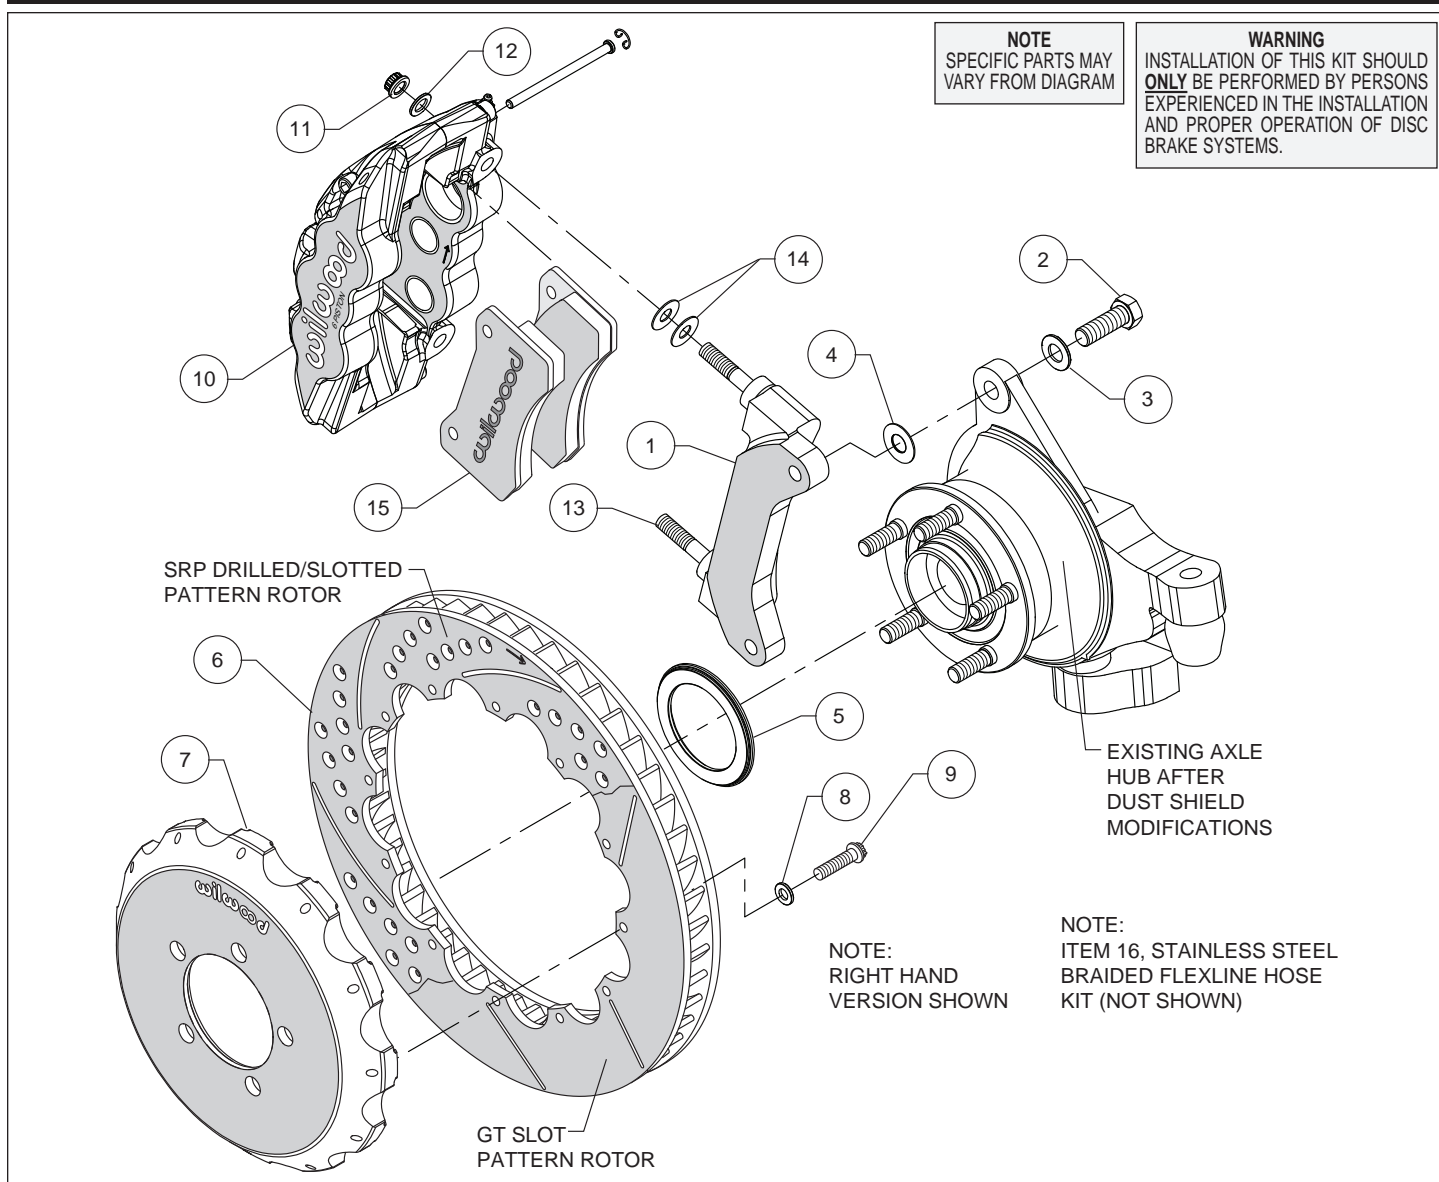
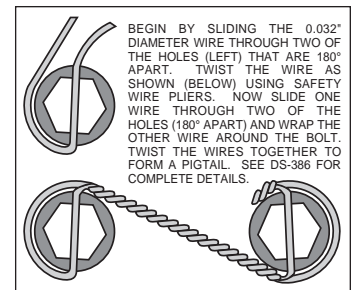

Figure 1. Typical Installation Configuration
Figure 4. Safety Wire Diagram
**Assembly Instructions** (numbers in parenthesis refer to the parts list and Figure 1 on the preceding pages):
- The caliper mount bracket (1) should initially be installed with clean, dry threads on the mounting bolts. Orient the bracket as shown in Figure 1, and install using washers (3) and bolts (2). Initially place one shim (4) on each bolt between the bracket and upright, Figure 1. Temporarily tighten the mounting bolts. **NOTE:** The bracket must fit squarely against the mount bosses on the upright. Inspect for interference from casting irregularities, machining ridges, burrs, etc. Later, after the caliper alignment has been checked, the mount bolts will be secured using red *Loctite*® 271.
- Orient the rotor (6) and the hat (7) as shown in Figure 1 and Photo 1. Attach rotor to hat using bolts (9) and washers (8). Using an alternating sequence, apply red *Loctite*® 271 to the threads, and torque to 155 **in-lbs**. For an added measure of security, the bolts may be safety wired using standard 0.032 inch diameter stainless steel safety wire as shown in Figure 4. Please refer to Wilwood's data sheet DS-386 (available at [www.wilwood.com/Pdf/DataSheets/ds386.pdf](http://www.wilwood.com/Pdf/DataSheets/ds386.pdf)) for complete safety wire installation instructions.
- Slide the rotor registration adapter (5) onto the axle register on the axle hub with the smaller O.D. facing outward, Photo 2. Slide the hat/rotor assembly onto the axle hub. **NOTE:** The hat must fit flush against the axle hub flange or excessive rotor run out may result. Install three lug nuts (finger tight) to keep the hat/rotor assembly in place while continuing with the installation.
- NOTE:** This kit contains distinct right and left hand calipers that must be mounted in a specific direction, as described below. Lubricate the caliper mounting studs (13) with lightweight oil. Initially place two .030" thick shims (14) on each stud as shown in Figure 1 and Photo 3. Mount the caliper (10) onto the bracket (1) using lock nuts (11) and washers (12), Figure 1. Ensure that the caliper is mounted so that the largest pistons are at the rotor exit end of the caliper, in relation to the direction of rotor rotation. Temporarily tighten the lock nuts and view the rotor through the top opening of the caliper. The rotor should be centered in the caliper, Photo 4. If not, adjust by adding or subtracting shims (4) between the bracket and the upright. Always use the same amount of shims on each of the two mounting bolts. Once the caliper alignment is correct, remove the bracket mounting bolts (2) one at a time, apply red *Loctite*® 271 to the threads, and torque to 60 ft-lb.
- Remove the two pad retaining pins from the caliper (10) by carefully popping out the pin retaining clips and sliding out the pins. Insert the brake pads (15) into the caliper from the bottom, Figure 1 and Photo 5. With the friction material facing the rotor, secure the brake pads in place with the pad retaining pins and clips, Photo 6. Reinstall the caliper onto the caliper mounting bracket and temporarily tighten the lock nuts. Check that the top of the brake pad is flush with the outside diameter of the rotor, Photo 7. If not, adjust by adding or subtracting shims (14) between the caliper and the bracket. After the caliper pad height is set, torque the caliper lock nuts (11) to 47 ft-lb.